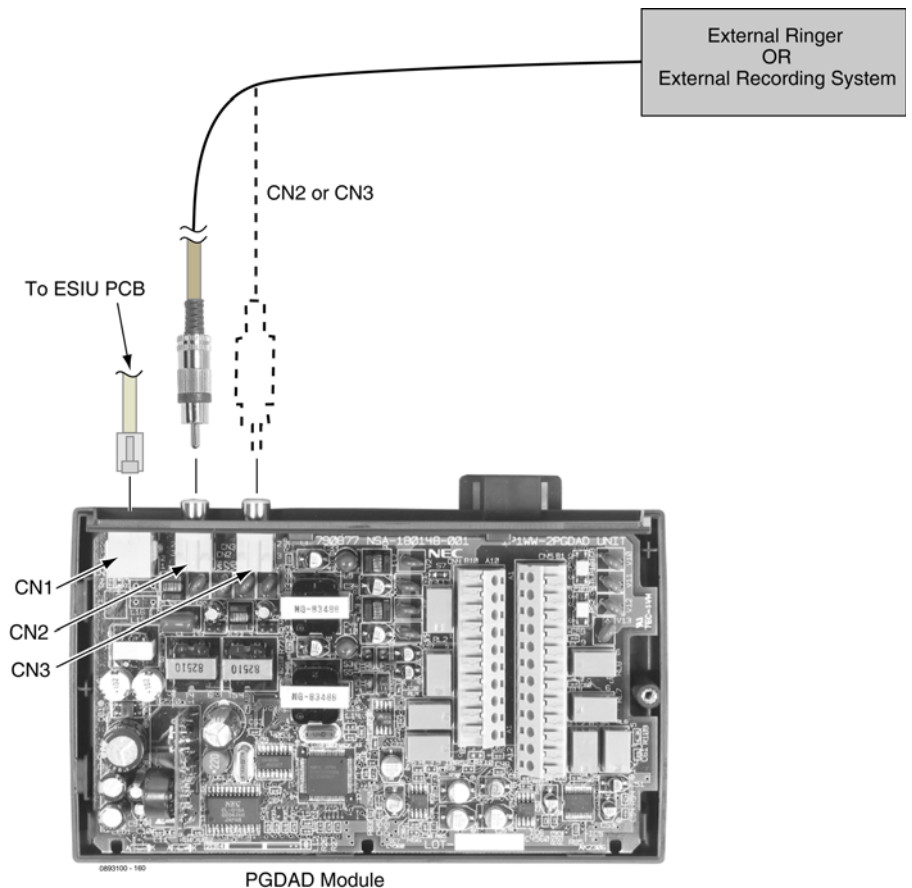

Figure 6-15 PGD(2)-U10 ADP Cable Connection
8. The opposite end of this cable is connected to the external recording system or external ringer either directly or by connecting to the cross-connect block where the item is connected. Refer to Figure 6-15 PGD\(2\)-U10 ADP Cable Connection on page 6-21.